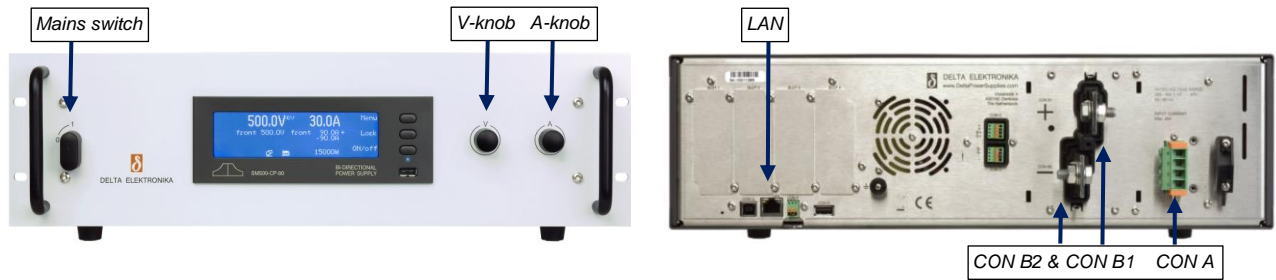

fig 3 - 1 - controls and connections.
- Use the included 4-pole header with the markings L1, L2, L3, PE for connecting the wire to the unit (see fig. 3 - 1).
- These terminals are located at the rear side, marked as CON B1 (PLUS) and CON B2 (MINUS), see fig. 3 - 1.